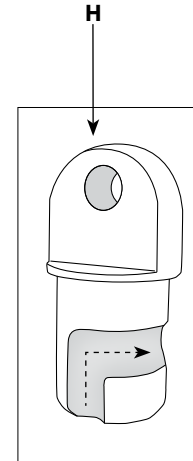

FIG. 3: End Plug close-up
- 6** Center the Awning Curtain (C) in the Mounting Bar (F), and squeeze together neatly with a pair of pliers both ends of the Mounting Bar (F), locking the panel assembly in place.
- 7** Attach the Support Arms (A) to the end of the Roll Tube Castings (E) and twist until locked.
- 8** Insert the End Plugs (H) into the end of the Support Arm (A) and twist until locked. Install the end of the Support Arm (A) into the Wall Bracket (W) and attach with a screws. *See Fig. 3*
**9** On or below the window sill, measure in at least 3" on each side. Install (1) Screw Hook (**S1, S2**) to each side with (1) Pulley (**P1A, P1B**) on each and squeeze closed. In the center of the window, install (1) Screw Hook (**S3**) with (2) Pulleys (**P2A, P2B**) and squeeze closed. Below these Pulleys, install the Cord Cleat (**K**).